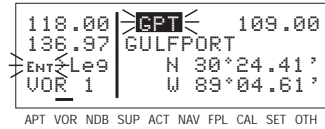

Figure 4-111
- Press **ENT** to display the waypoint page on the right side for the identifier just entered (figure 4-111).